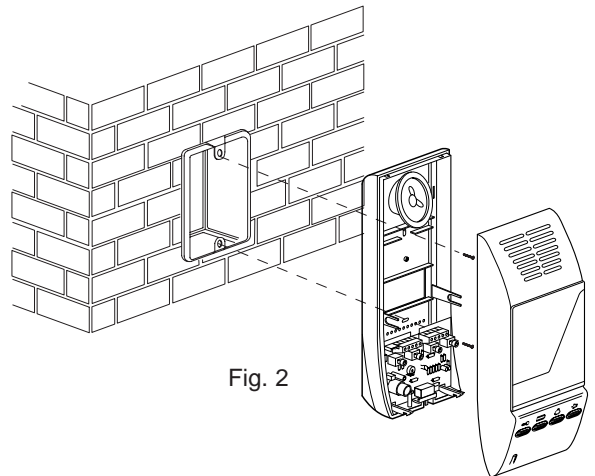

Fig. 2
- Fig. 2 - Fit interphone on flush-mounted vertical rectangular back box by means of the 2 screws provided, or fix the screws with expansion plugs (diameter 5) and make the various terminal connections. Fit the interphone upper part at about 1.5m of height from floor level.